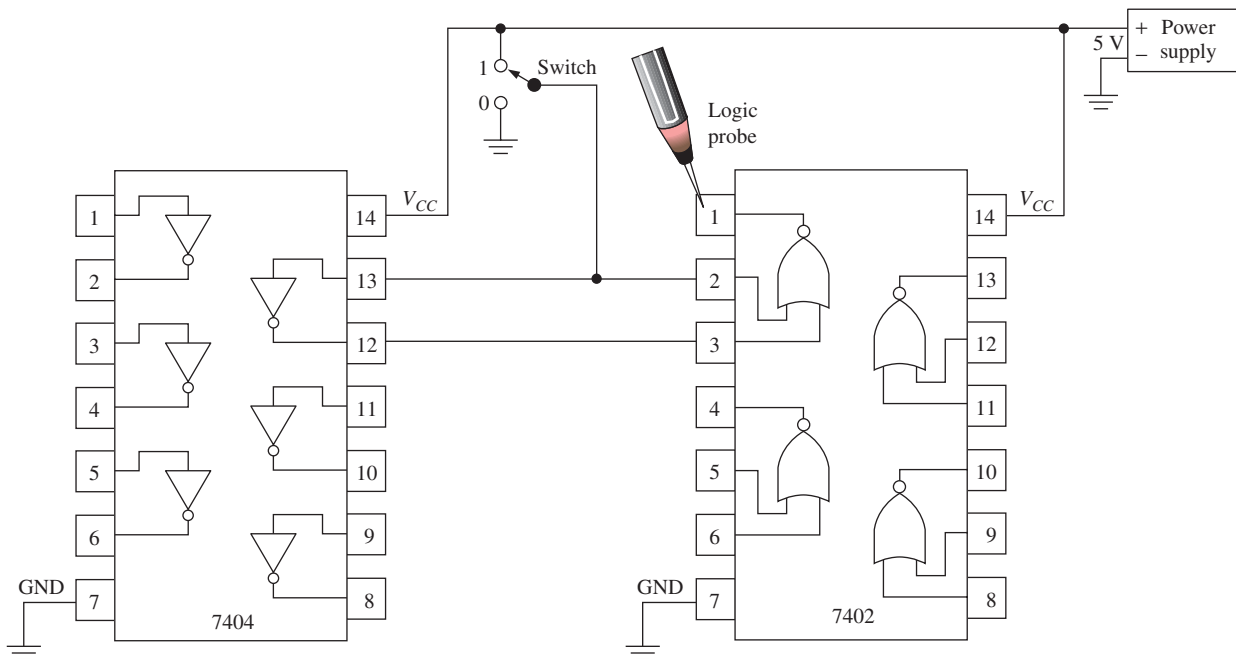

Figure P3–45
- C T** **3–46.** Another circuit constructed the same way as Figure P3–45 causes the logic probe to come on when the switch is in the down (0) position. Further testing with the probe shows that pins 2 and 3 of the NOR IC are both LOW. Is anything wrong? If so, where is the fault?